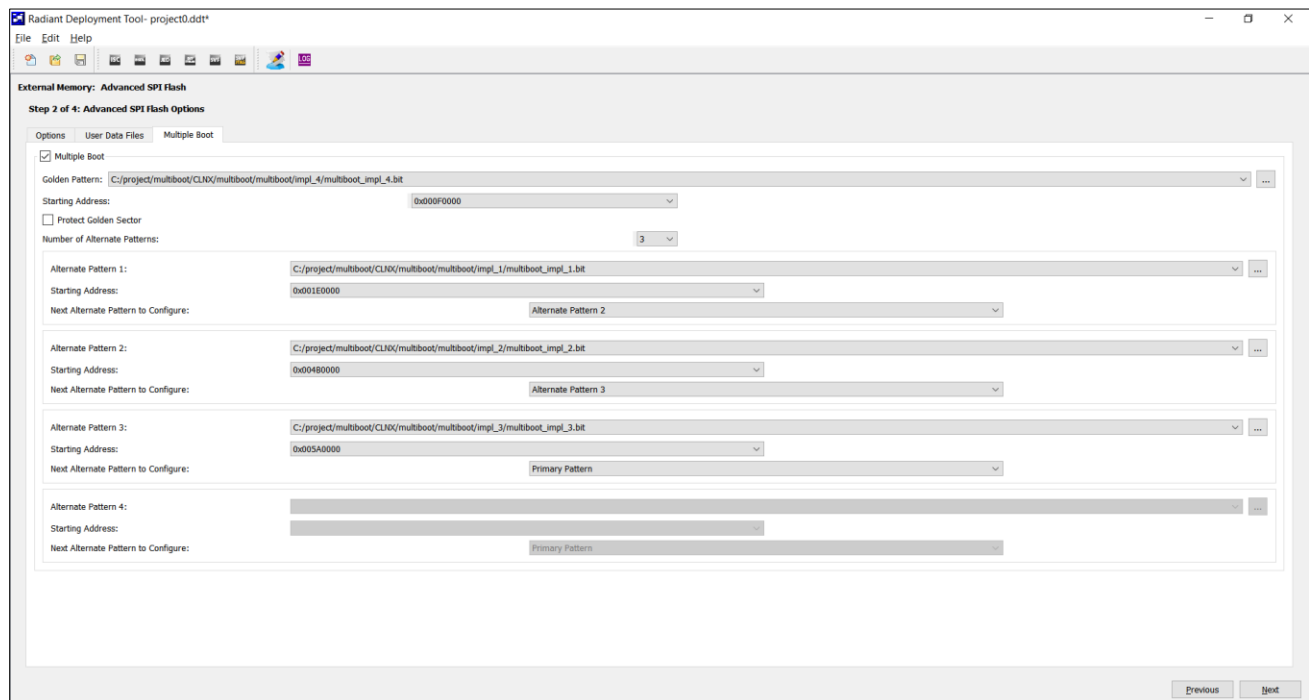

Figure 6.8. Multiple Boot Tab of Step 2 of 4: Advanced SPI Flash Option
- c. In Step 2 of 4: Advanced SPI Flash Option (Multiple Boot tab), select the following options (Figure 6.8):